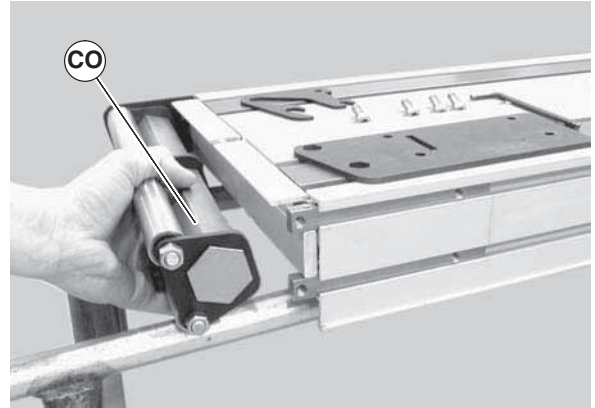

**Figure 67**
3. Pull back the outer headplate (Figure 67, item U) and remove the inner spacer (CJ).
*Transfer tail assembly must be removed as on piece. Removal may require removing screws T of Figure 66 and headplate U of Figure 67 as shown in Figure 68*